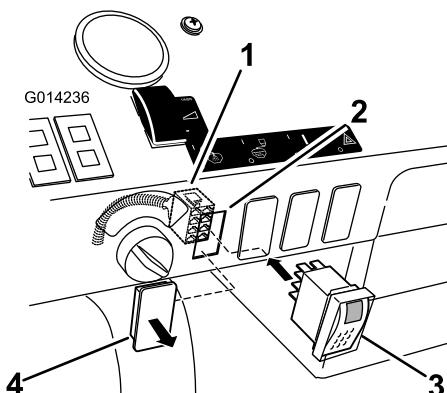

Figure 29
1. Locate the plug for the rinse tank switch on the dashboard (Figure 29).
2. Remove the plug from the dashboard (Figure 29).
5. Install the switch to the box connector through the dashboard (Figure 29).